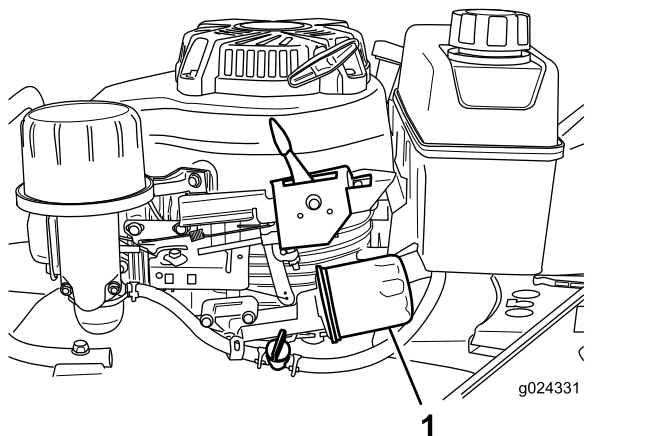

Figure 25
6. Place a rag under the oil filter (Figure 25) to catch any oil that may leak out as you remove the oil filter.